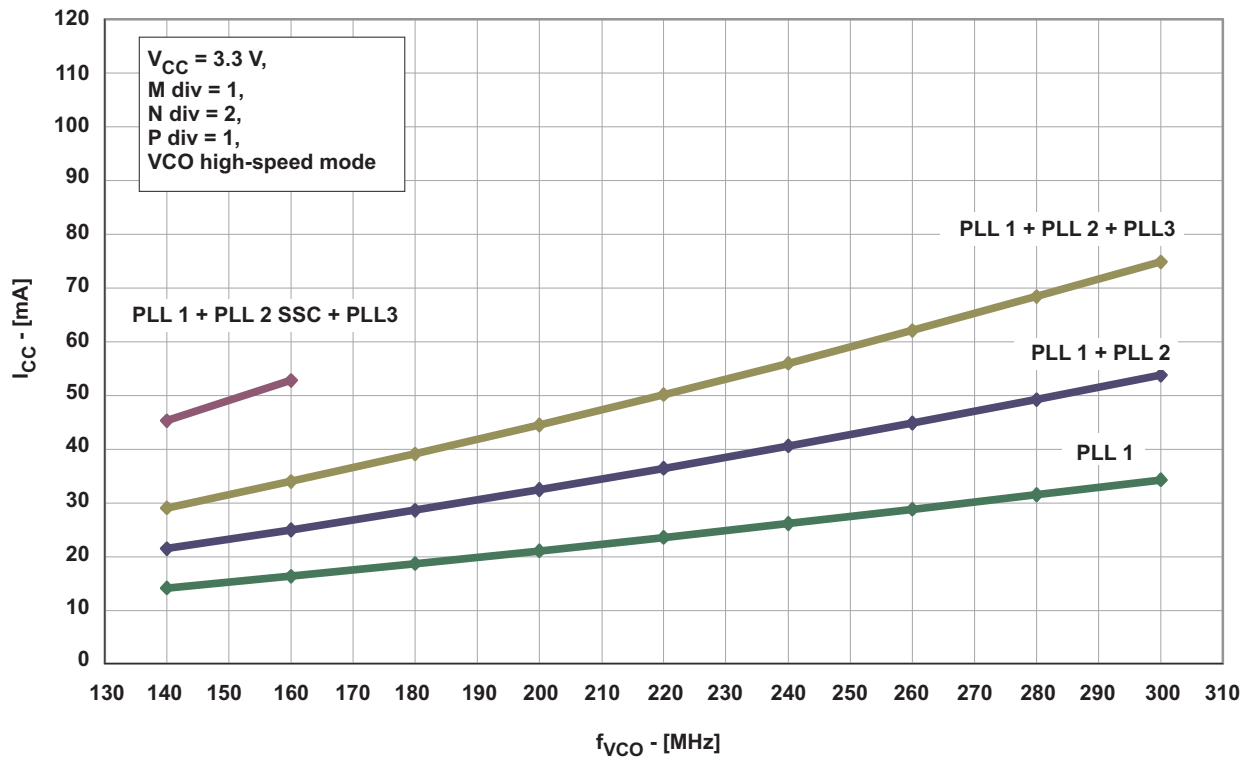
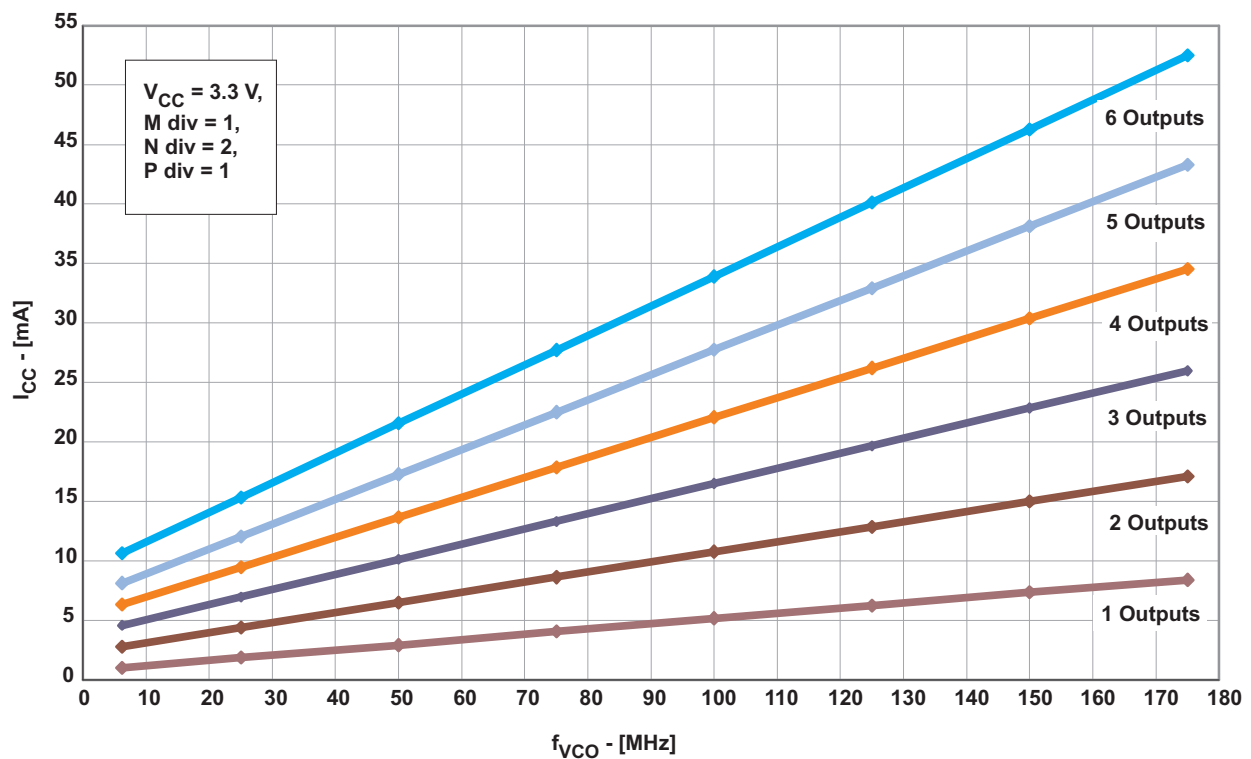
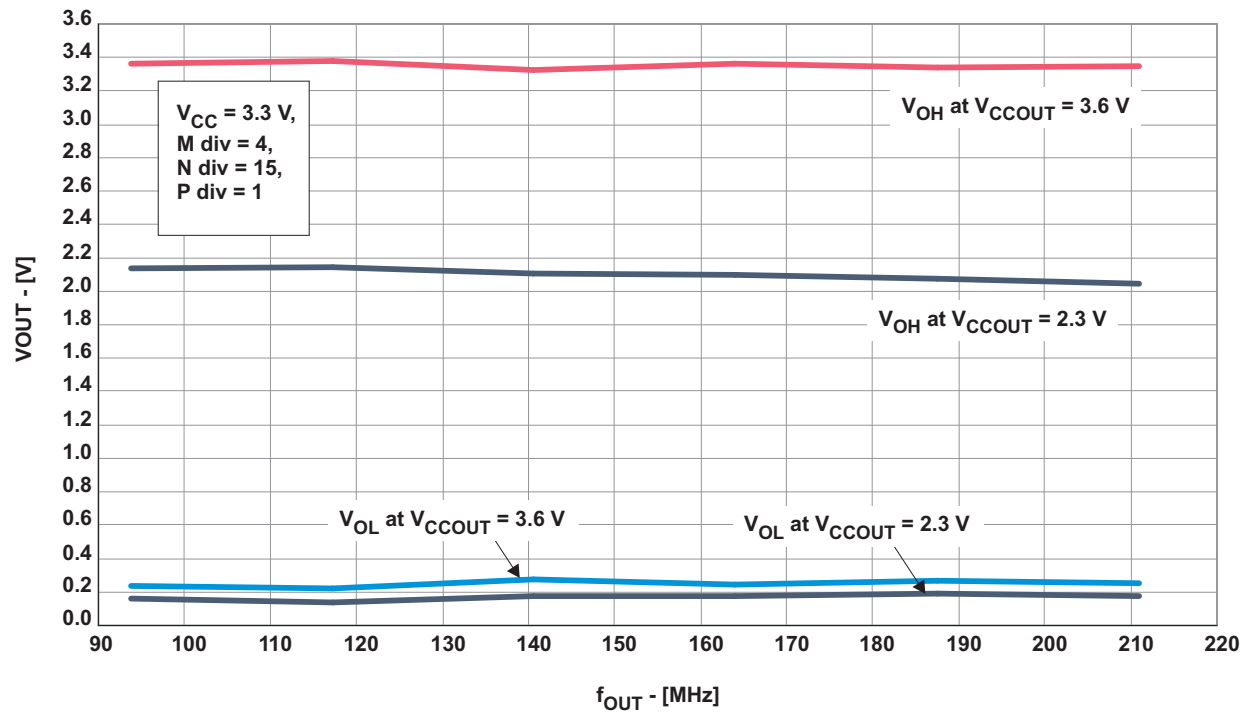

Figure 3. I_{CC} vs Number of PLLs and VCO Frequency (VCO at High-Speed Mode, Byte 6 Bit [7:5])
Figure 4. I_{CCOUT} vs Number of Outputs and VCO Frequency
Figure 5. Output Swing vs Output Frequency
(1) All typical values are at respective nominal V_{CC} .
(2) For calculating total supply current, add the current from Figure 2, Figure 3, and Figure 4. Using high-speed mode of the VCO reduces the current consumption significantly. See Figure 3.
(3) Normal-speed mode or high-speed mode must be selected by the VCO frequency selection bit in Byte 6, Bit [7:5]. The min $f_{(VCO)}$ can be lower but impacts jitter-performance.
(4) The maximum output frequency may be exceeded, but specifications under the Recommended Operating Condition may change and are no longer assured. Do not exceed the maximum power dissipation of the 20-pin TSSOP package (600 mW at no air flow). See Figure 5.
(5) 50000 cycles.
(6) Jitter depends on configuration. Jitter data is for normal t_r/t_f input frequency = 27 MHz, $f_{(VCO)} = 147$ MHz output.
(7) The $t_{sk(o)}$ specification is only valid for equal loading of all outputs.